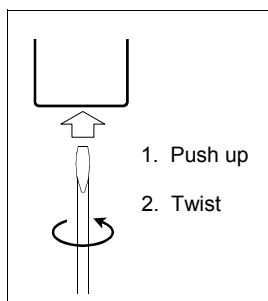

Fig. 2. Opening the case
- Open the case.** Remove the GEMC-WL-WD transmitter cover from its mounting plate by inserting a small screwdriver into either slot; twist while applying upward pressure. See Fig. 2.